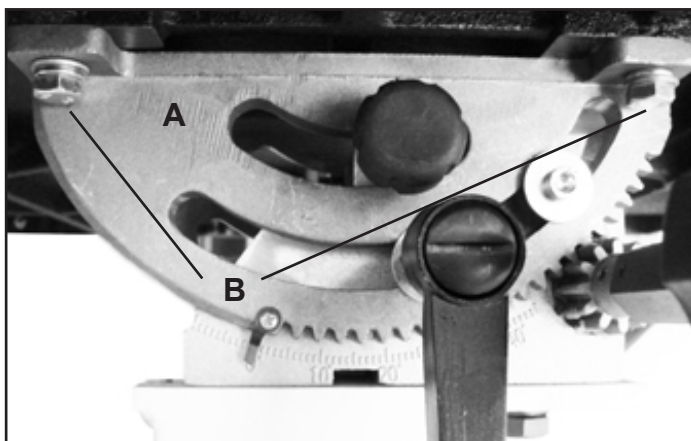

FIG. 6
2. With the help of another person, lift the work table onto the trunnion (#52B). FIG. 6, A.
3. Fasten the work table to the trunnion using the supplied (4) hex bolts, (4) lock washers and (4) washers (#53B, 56B, 70B). FIG. 6, B.